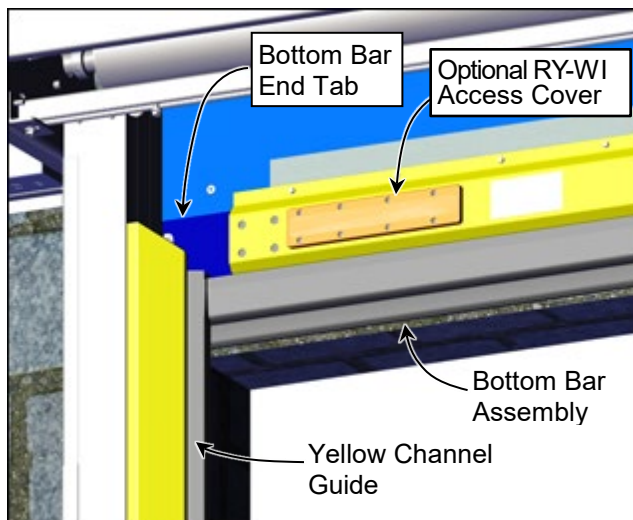

Figure 29
When the door is knocked out of position, the System 4 Drive & Control takes over and will raise the tabs high enough to be reinserted into the side columns. The open-limit position should be adjusted so that the door travel allows a minimum of half the foam breakaway tab into the yellow channel guides of each side column. (See Figure 29)
1. To inspect and adjust the switch, remove the access cover from the wireless enclosure assembly on the face of the bottom bar assembly. (See Figure 29)